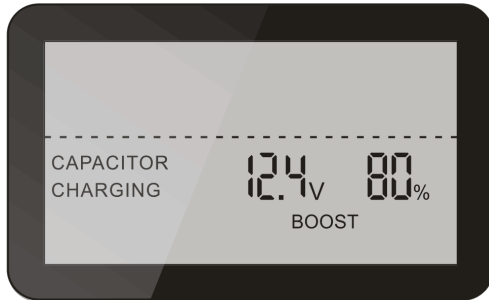
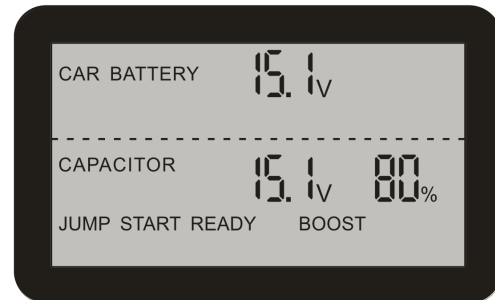

Fig. 2
Fig. 3
- 1) **BOOST Mode** - Transfer the stored power from built-in back-up battery of PLT-99300. If the backup battery has been pre-charged, you can press the <backup battery Boost> button to charge the capacitors (Fig 2). After approximately 4 mins, when the LCD display shows "JUMP START READY" (Fig 3), turn on the engine immediately.